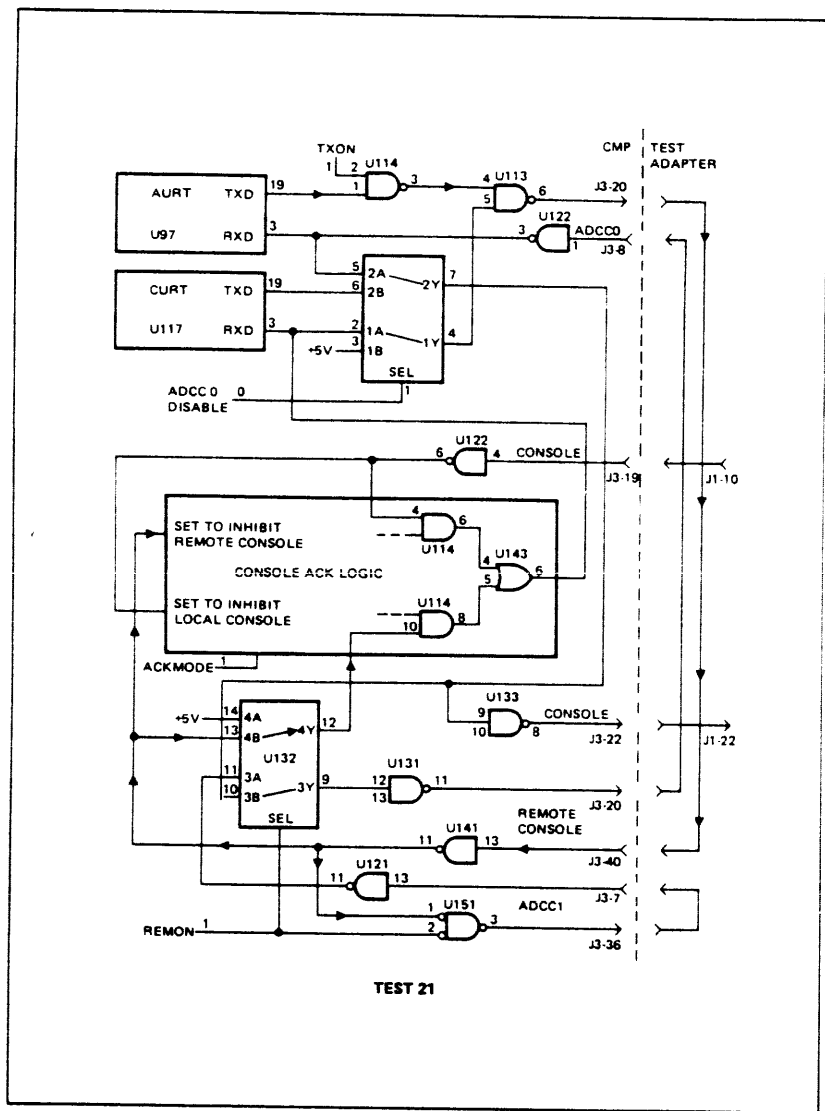

Figure 3-10. Data Comm Test Step 21
This test requires that the Data Comm Test Adapter part number (30090-60052) is installed between the CMP connector J3 and the CMP-ADCC cable. See figure 3-10 for adapter wiring configuration.
- 21 See figure 3-10.